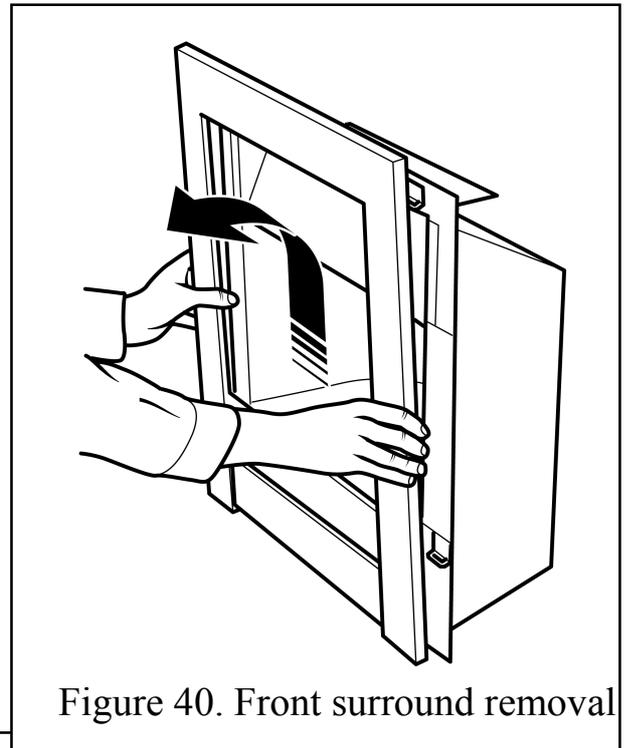

Figure 40. Front surround removal
2. The surround is held in place by four retaining plates at the back of the surround. These slot into four retaining brackets on the hotbox. To remove the surround, hold the sides of the surround and lift upward and forward. The surround should lift clear of the hotbox (See figure 40)